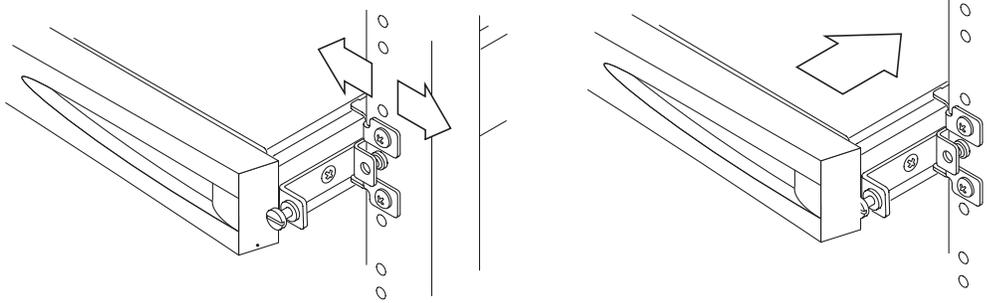

FIGURE 2-12 Adjusting the Slide Mount Rails
- 10. Align the screws on the sides of the system with the slide mounts in the rack (FIGURE 2-12).**